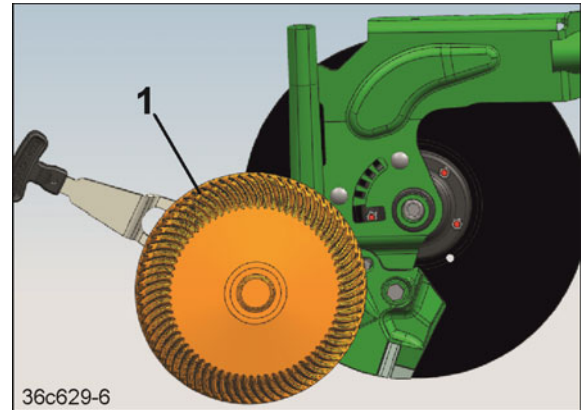

Fig. 307
1. Remove the depth control disc/wheel (Fig. 307/1).
9. Install the depth control disc/wheel (Fig. 307/1) and move to the desired position.